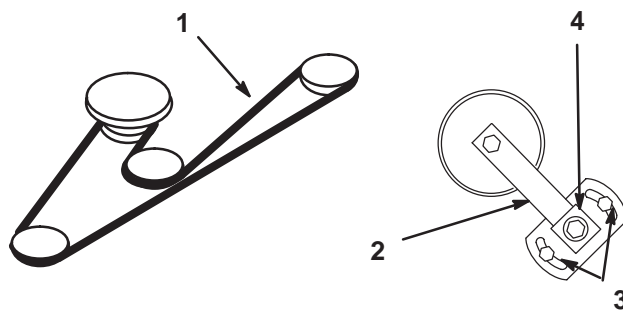

Figure 60
3. Loosen two nuts securing idler plate and move the idler arm to relieve belt tension on the idler pulley, then remove the worn deck belt (Fig. 60).
4. Install the new deck belt around the spindle pulleys, belt guide, the idler pulley, and in the lower groove of the center spindle pulley (Fig. 60).